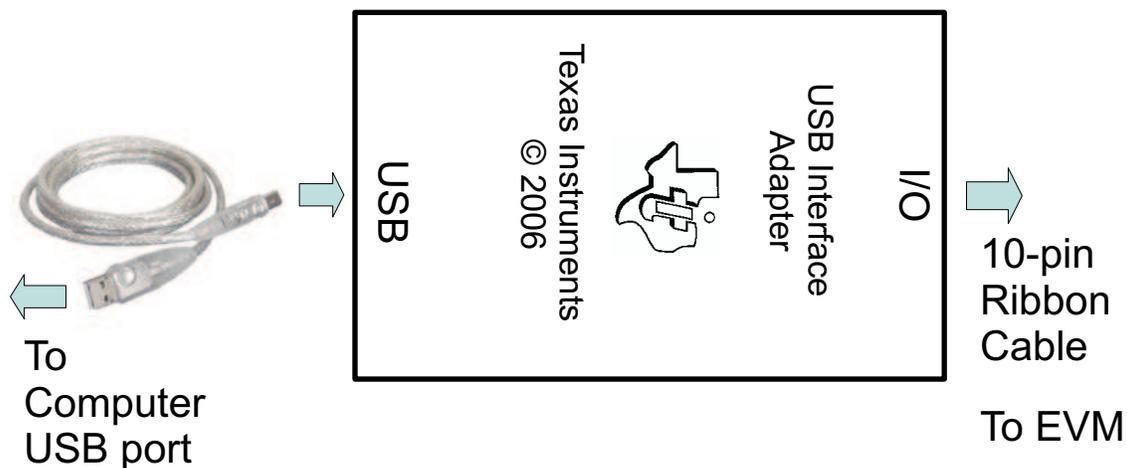

Figure 3. Connections of HPA172 Kit
Because the bq24260 and bq24261 have the watchdog timers enabled, it is recommended that you set the software's **Reset Watchdog Timer** to reset every 5 seconds. Otherwise, after 30 seconds of operation, the IC enters Default mode. Note that the 27-minute safety timer is not reset by this function and eventually times out if charging does not complete, unless the **Safety Timer Time Limit** is expanded or disabled via the GUI. One way to reset the safety timer is to allow the 30-second watchdog timer to expire. See Figure 3 in the data sheet for more information about the timers.
7. Connect J17 to HPA172 kit by the 10-pin ribbon cable. Connect the USB port of the HPA172 kit to the USB port of the computer. The connections are shown in Figure 3.